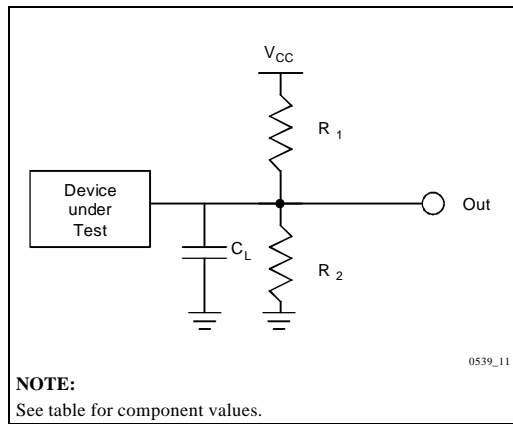

Figure 19. Test Configuration
5. See Test Configurations (Figure19), 2.7–3.6V and 3.3±0.3V Standard Test component values.
6. See Test Configurations (Figure19), 5V Standard Test component values.
9. See Test Configurations (Figure19), 2.7–3.6V and 3.3±0.3V Standard Test component values.
10. See Test Configurations (Figure19), 5V Standard Test component values.